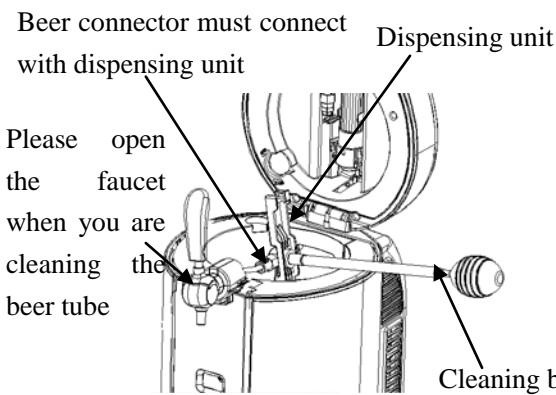
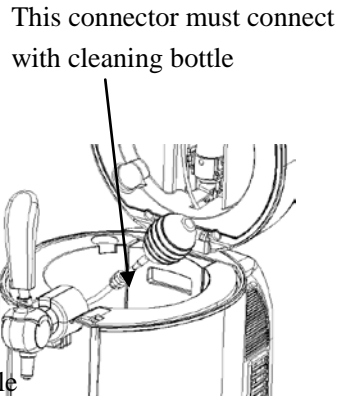

Figure 29
Figure 30
2. And connect the end of piercing pin, press the water into the pin to clean the pin tube, and push the water out from the beer tube at the other end. And repeat this cleaning work till the beer tube clean (need 3 bottles warm water at least), please clean the beer tap mechanism as figure 30. Note: Please disassemble the tap when make the cleaning. (Show as figure 29)